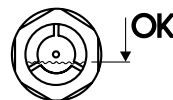

Figure 6:
- Fill with oil slowly, using the syringe. It will take 5 to 10 minutes until the oil reaches the same level in both oil chambers. The oil volume is correct when the oil level is located in the lower third of the gauge glass (Figure 6). The required quantity of oil depends on the installation position; for guidance, see Tables 3 and 4.